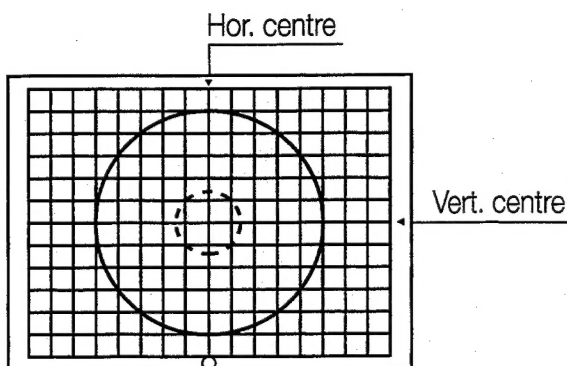

Fig. 7
1. Receive a crosshatch pattern (Fig. 7, input level 80dBu).
3. Check the horizontal line of the center cross-line it should meet the vertical centre mark (off center tolerance $\pm 2\text{mm}$)(See Fig. 7)
1. Keep the pattern reception as Fig. 7